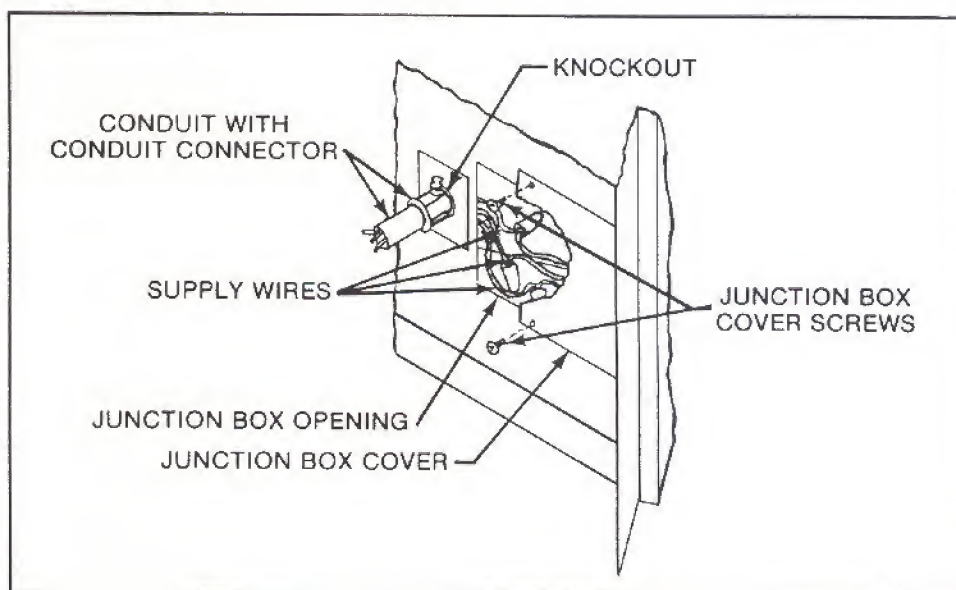

Figure 15
NOTE: Whether intending to install the Fan now, or anticipating installation in the future, it is recommended that you pre-wire the fireplace at the junction box during the installation of the fireplace. Remove the junction box cover located on the left side of the fireplace by removing the two screws used to secure it. Remove the 13/16" diameter knockout by the side of the junction box opening and insert the electrical conduit attached to a 1/2" EMT conduit connector (pressure cast set screw type) through this hole and secure the conduit to the outer shell with the conduit connector lock nut. Firmly attach the supply wires to the appropriately colored receptacle lead wires in the junction box using a 105° C class wire nut that will accept (2) 18 ga. wires. Replace the junction box cover and secure it with the screws previously removed. See Figure 15.